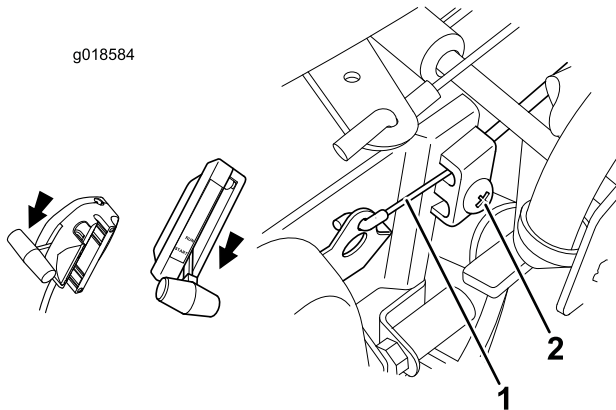

Figure 3
1. Remove the throttle control from the handlebar. Retain the mounting fasteners (Figure 1). Loosen the throttle control cable clamp on the engine, remove the outer cable from the clamp, and remove the inner cable from the lever (Figure 3).
7. Set the throttle control to start (Figure 3).